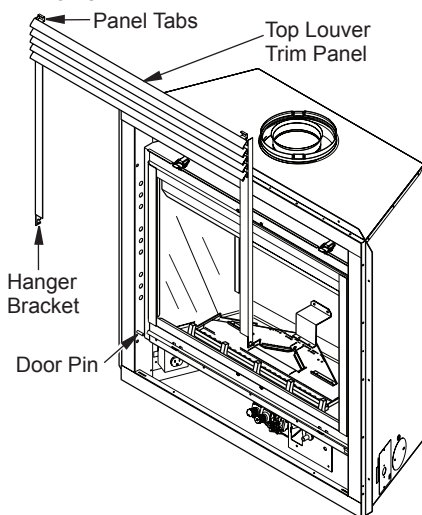

Figure 55 - Removing Top Louver Trim Panel
1. Grasp two hanger brackets at bottom and pull up until hanger brackets release from door pins (see Figure 55).
2. Remove top louver trim panel (see Removing Top Louver Trim Panel and Figure 55, page 30).